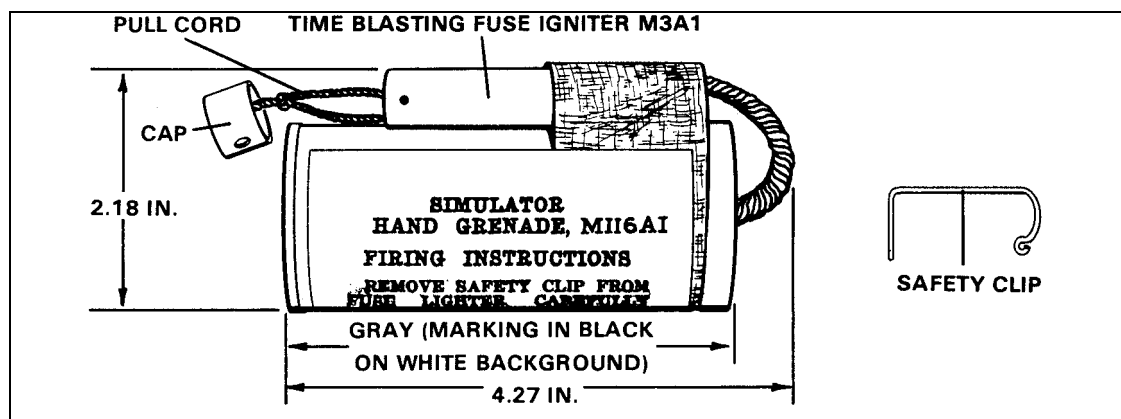

Figure 5-6. M116A1 simulator.
c. The hand grenade simulator, M116A1, (Figure 5-6) is used to create battle noises and flashes during training. It differs from the ground burst simulator in that it is shorter and does not emit a high-pitched whistle before detonation. The hand grenade simulator is thrown in the same manner as a live grenade. It creates a flash and loud report 5 to 10 seconds after ignition.